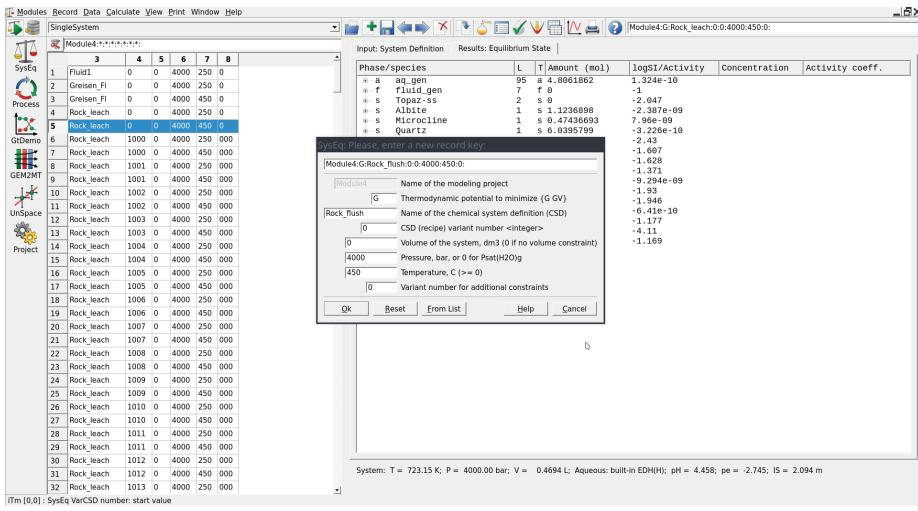

Figure 4.13: To set up a single-pass flushing model we need to create a parent chemical equilibrium system in SysEq by cloning an existing record.
- Create the parent system records in SysEq by cloning the Rock_leach model created earlier at 450 °C and 4 kbar. Rename this system records to “Rock_flush”, and leave all the other parameters (Fig. 4.13).